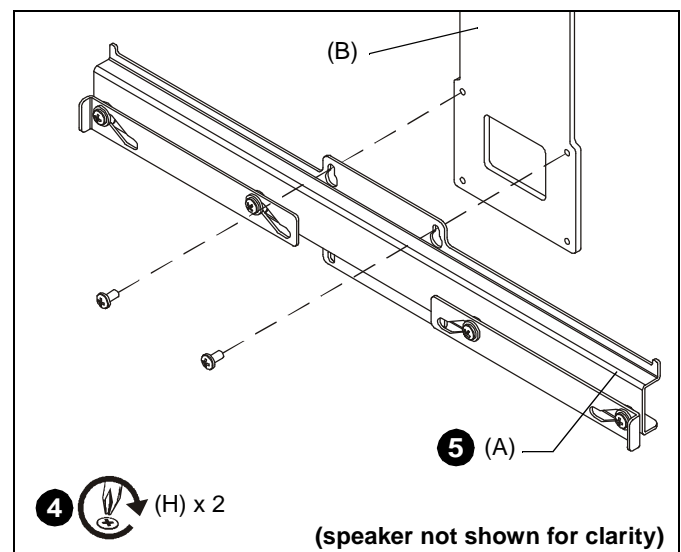

Figure 10
3. Hang speaker with center channel hooks onto center assembly (A).
4. Partially install two 10-24 x 3/8" Phillips pan head screws (H) into the top two holes on shelf upright (B). (See Figure 10)
5. Raise center assembly (A) up to hang it on two screws inserted in Step 1. (See Figure 10)